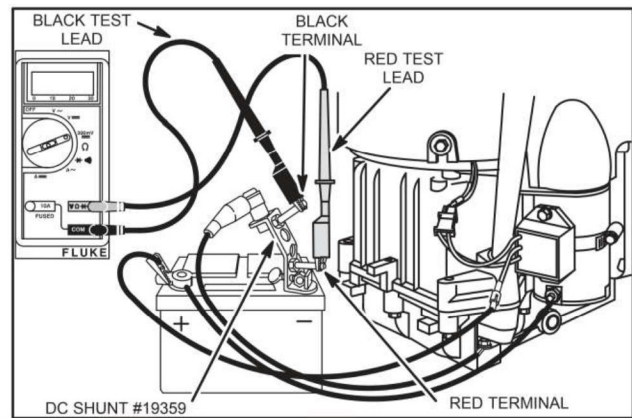

Fig. 23 – Testing Regulator-Rectifier 16 Amp System With DC Shunt
The DC Shunt **must** be installed on the **negative** (-) terminal of the battery, Fig. 23. All connections must be clean and tight for correct amperage readings. Connect stator wire harness to regulator-rectifier.
2. Insert RED test lead into **V Ω $\rightarrow$** receptacle in meter and insert into RED terminal on shunt, Fig. 23.